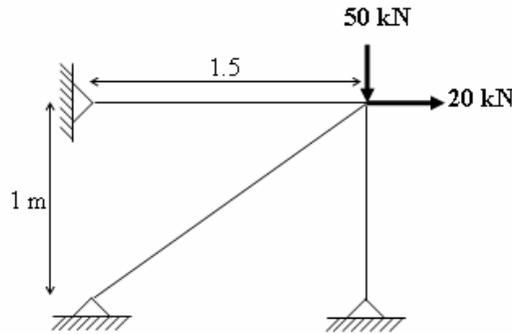

Fig.5
6. Using stiffness method analyze the truss shown in Fig.5 Assume the axial rigidity is constant. [16]